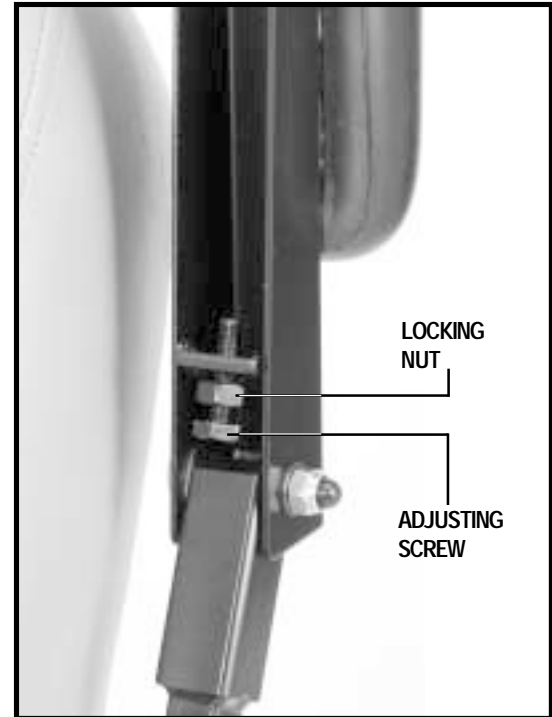

Figure 17. Armrest Angle Adjustment
2. Loosen the locking nut. See figure 17.